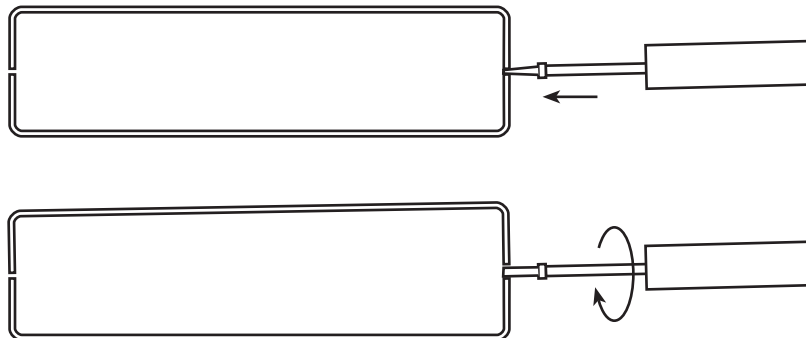

Figure 9. Case being opened with screwdriver
1. Open the 3086FR's case by inserting a screwdriver into the slots and twist the screwdriver head slightly. The top half of the case will separate from the lower half of the case (see Figure 9). Take caution not to damage any of the PC board mounted components.